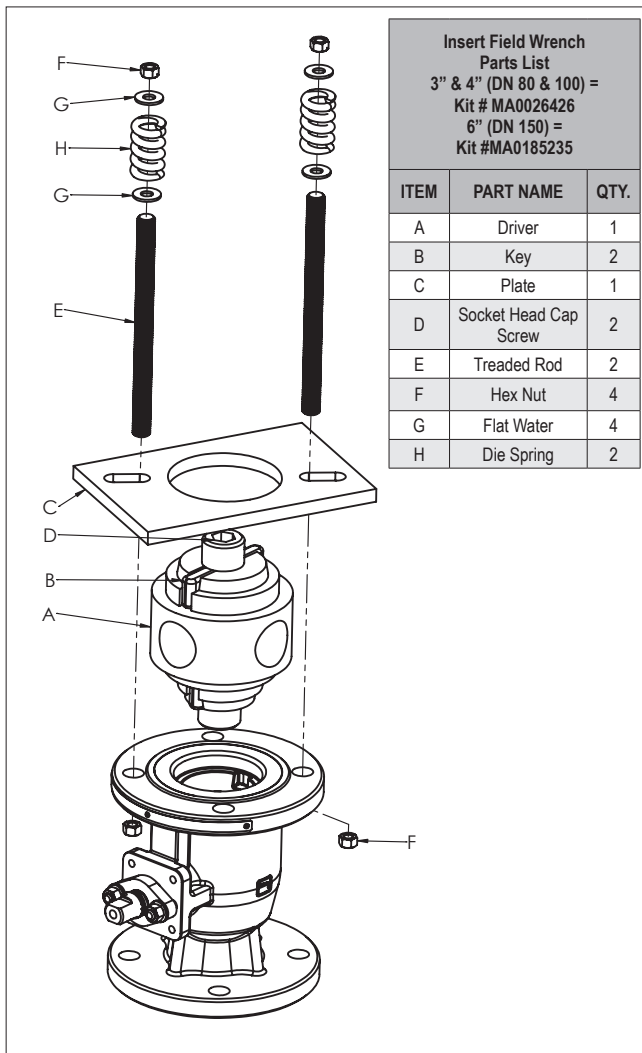

Figure 5. Insert Field Wrench
Tools needed to disassemble Jamesbury 3", 4" & 6" 7000 series valves, such as the "insert field wrench" mentioned in step 3 and shown in (**Figure 5**), may be ordered as (MA0026426) for 3" & 4" (DN 80 & 100) Series 7000, and (MA0185235) for 6" (DN 150) Series 7000 from your local Valmet Distributor.
3. The insert design requires that the insert (2) be unthreaded in a counter clockwise motion using the following method utilizing the insert field wrench. Assemble the field wrench as follows (see **Figures 5 and 19**):
- A. Place the driver (A) into the insert (2) slots.
- B. Put the plate (C) on top of the driver (A).
- C. Place the studs (E) through the plate (C) and flange holes. Thread the nuts (F) onto the stud below the flange.
- D. On the top side of the plate (C) put a flat washer (G), die spring (H), flat washer (G), and nut (F). Tighten to slightly compress spring
Tools needed to disassemble *Jamesbury* 3", 4" & 6" 7000 series valves, such as the "insert field wrench" mentioned in step 3 and shown in (**Figure 5**), may be ordered as (MA0026426) for 3" & 4" (DN 80 & 100) Series 7000, and (MA0185235) for 6" (DN 150) Series 7000 from your local Valmet Distributor.
6. The insert design requires that the insert (2) be unthreaded in a counter clockwise motion using the following method utilizing the insert field wrench. Assemble the field wrench as follows (see **Figures 5 and 19**):
- a. Place the driver (A) into the insert (2) slots.
- b. Put the plate (C) on top of the driver (A).
- c. Place the studs (E) through the plate (C) and flange holes. Thread the nuts (F) onto the stud below the flange.
- d. On the top side of the plate (C) put a flat washer (G), die spring (H), flat washer (G), and nut (F). Tighten to slightly compress spring
7. Place a pipe or rod that will tightly fit through the hole in the driver (A) and loosen the insert (2) by turning counterclockwise. Ensure the pipe or rod is of sufficient strength so as not to yield or break during the loosening operation.